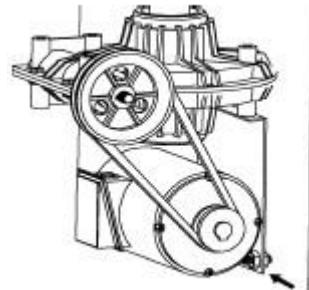

Fig. 16
- Tight the screws for the belt tension (fig 16).